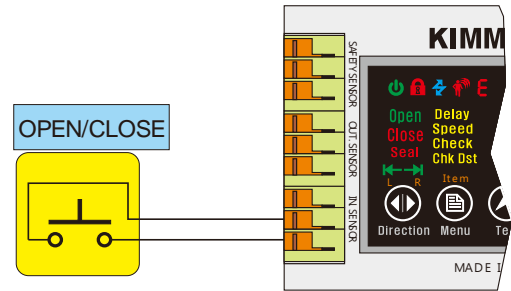

Fig. 4-3
- If you press push button switch 1,door will be opened and closed after press again. Set coefficient "So" to "3" as fig 4-3.
After you connect touch switch or push button to the internal sensor terminal as fig 4-3, set coefficient "So" to "4" 4